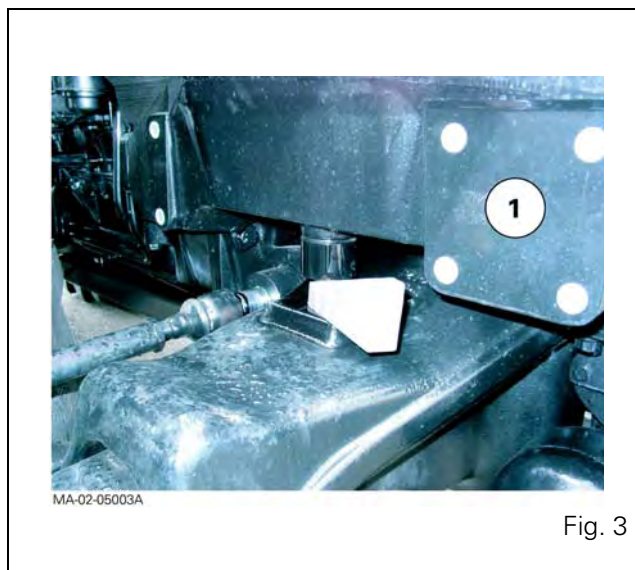

Fig. 3
20. Cancel the front axle oscillation (all versions) by sliding a suitable chock in at each side of the support (1) (Fig. 3).